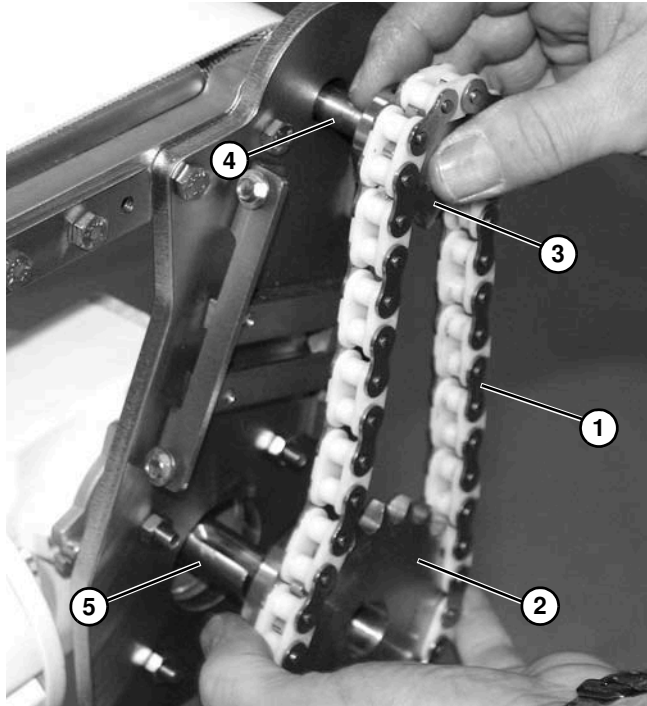

Figure 55
Make sure sprocket keys are installed on conveyor input shaft (Figure 55, item 4) and gearmotor output shaft (Figure 55, item 5).
8. Install new timing chain (Figure 55, item 1) over drive sprocket (Figure 55, item 2) and driven sprocket (Figure 55, item 3). Install timing chain and sprockets on conveyor input shaft (Figure 55, item 4) and gearmotor output shaft (Figure 55, item 5). Do not tighten sprocket set screws.